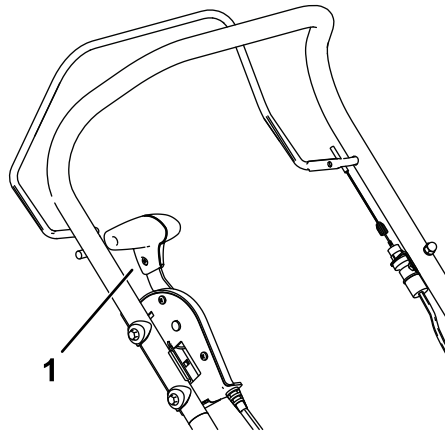

Figure 10
2. Move the transport lever all the way back toward you into the transport position (Figure 10).
5. Move the transport lever all the way back toward you into the transport position (Figure 10).
To shut off the engine, release the blade-control bar and move the transport lever all the way back toward you into the transport position (Figure 10).